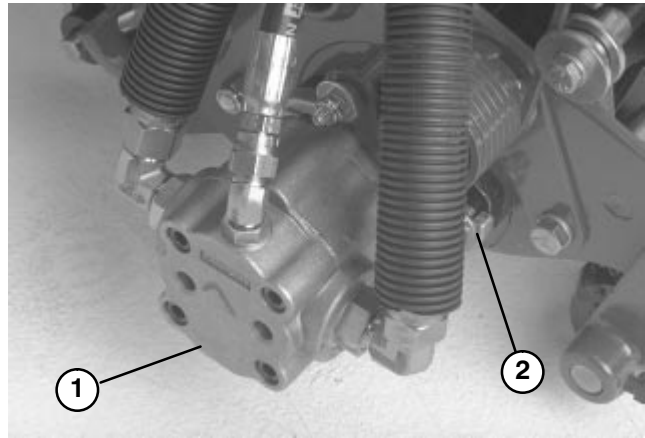

Figure 10
9. Assemble the mounting nuts for the reel drive motor to each cutting unit (Fig. 10). Leave approximately 1/2" of threads exposed on each mounting stud.